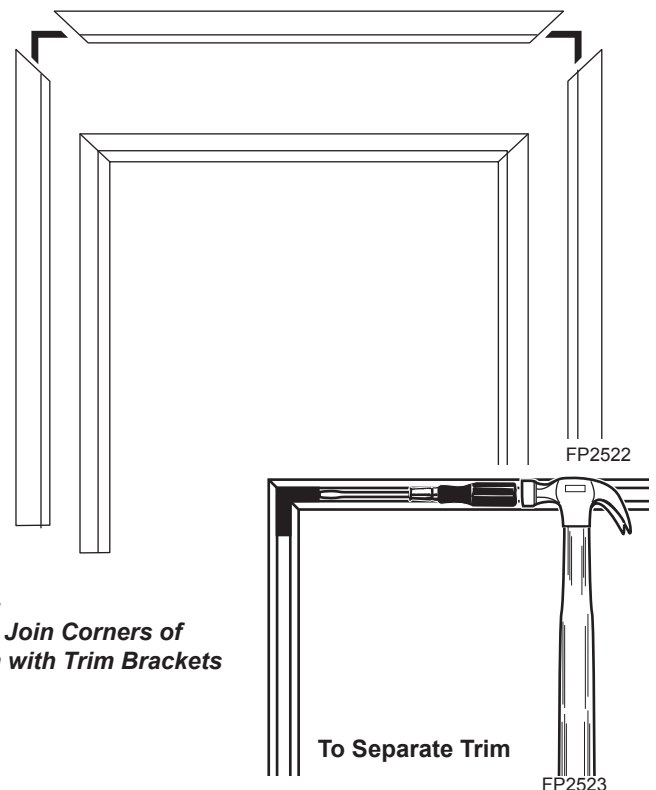

Figure 37 -
1. Remove black trim from protective packaging. Remove four (4) black screws and two (2) 90° angle trim brackets from owner's manual packaging.
2. Lay trim on floor and match corners of side trims to top trim. *Figure 37*
3. Use one 90° angle trim bracket to join the corner of one piece of side trim to the corner of the top trim piece. *Figure 37*. A rubber hammer or handle of a claw hammer will help secure the corners.